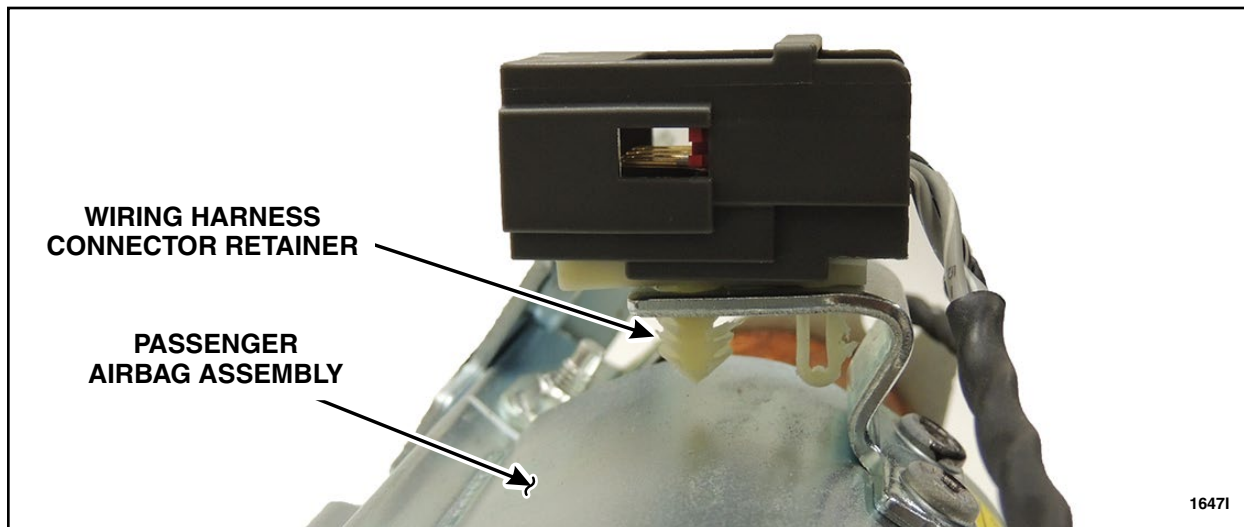

FIGURE 1
3. Remove the wiring harness connector retainer from the passenger airbag assembly. See Figure 1.